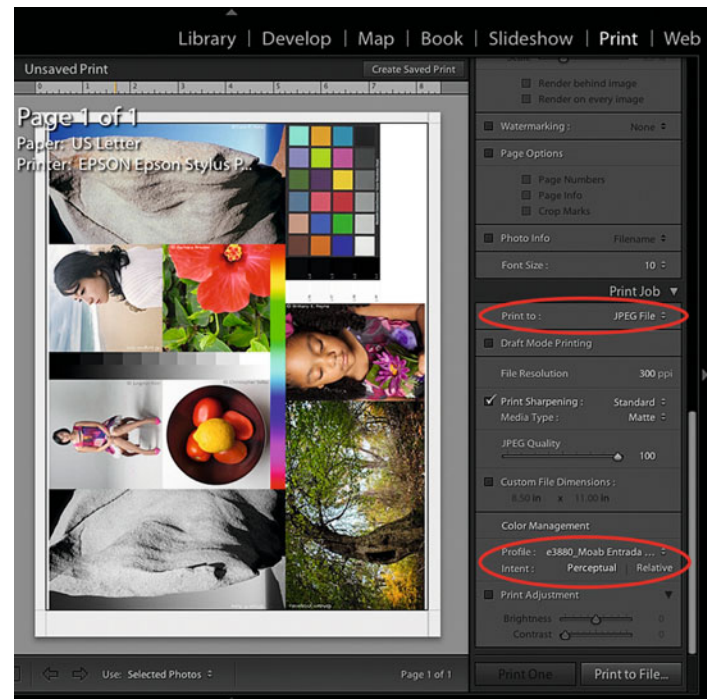

FIGURE 8.48 Print Module in Adobe Lightroom, showing the ability to Save to JPEG file while converting to a printer/paper output profile.
2. *Print to JPEG File*. In the Print Job panel of the Print module (Figure 8.48), you're given the option to send the output to a compressed JPEG file instead of a printer. You might use this option for proofing, or for preparing files to be printed on another computer that doesn't have Lightroom installed. In the lower right, or the **Print Job** panel, you can see the **Color Management** area. Here, we can select the **Profile** to convert to, when printing to the JPEG file and the rendering intent to use. The choices of rendering intent are limited to two: **Perceptual** and **Relative** (meaning Relative Colorimetric).